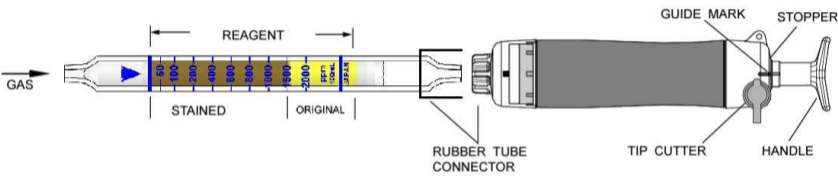

Fig.1
- Insert the detector tube into the aspirating pump securely as shown in Fig.1. (Arrow mark shall point to the pump.)
- In case of 2 pump strokes, push back the handle without removing the detector tube from the rubber tube connector so that air in the pump will be discharged perfectly. Then repeat the step ③ ~ ④ once more.